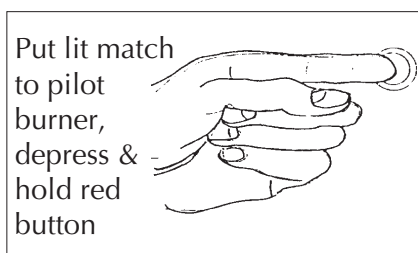
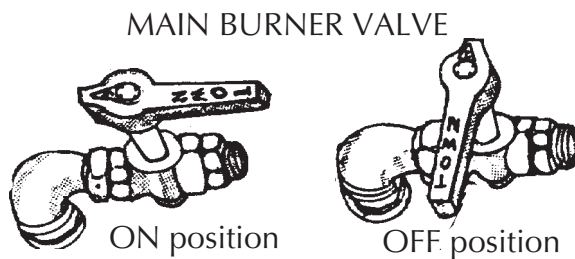

figure 1
figure 2
- Main burner valve shall be in OFF position (figure 2). Place a burning match by the pilot burner in the combustion chamber of the range. Depress safety control red button on (fig.1 below) and light pilot.